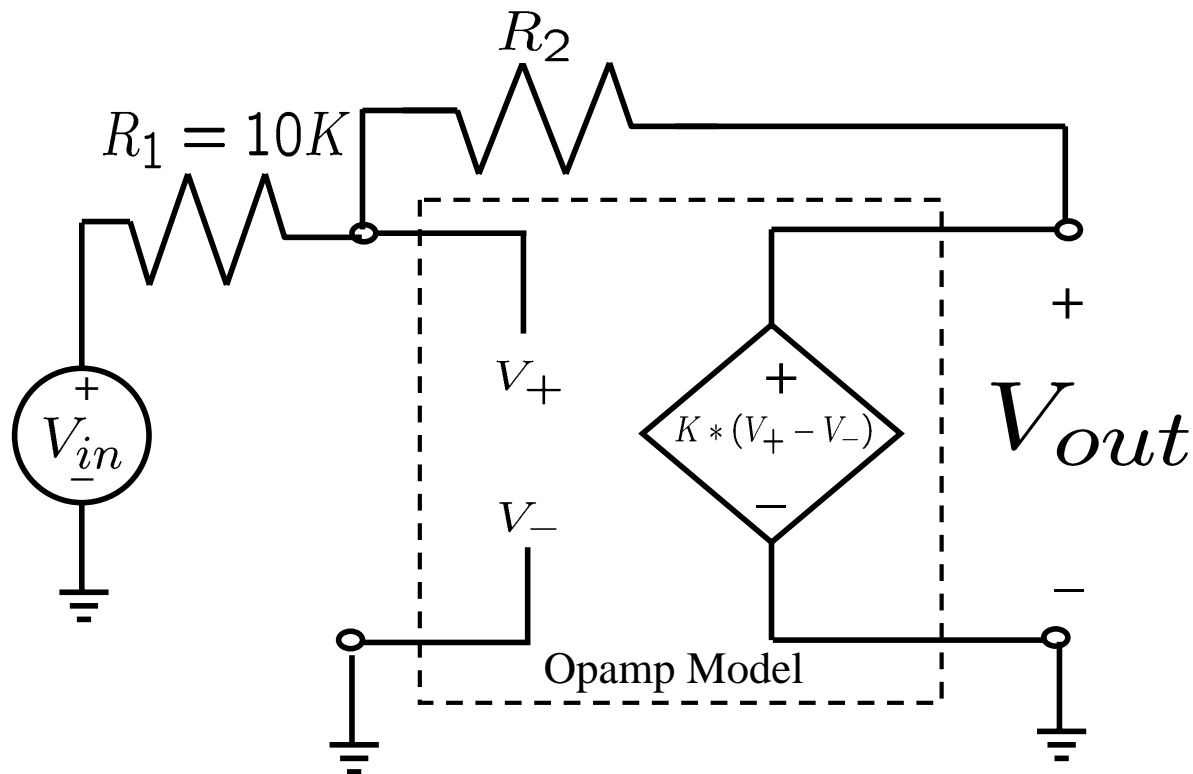

Figure 3: Postive Feedback version of an amplifier.
**Question 6.** In figure 3, the voltage-controlled voltage-source model of the op-amp has been used to create an amplifier with input  $V_{\text{in}}$  and output  $V_{\text{out}}$ , but we have interchanged the positive and negative inputs. Using the difference equation model for the response of the output of the op-amp to its input, then the relationship between  $V_{\text{out}}$  and  $V_{\text{in}}$  will also be a difference equation of the form
**Question 7.** Suppose  $V_{\text{out}}(0) = 0$  and  $V_{\text{in}} = 1$  for all  $n$  for the op-amp configured as figure 3 with  $R_2 = 10\text{k}$ . Will the  $\lim_{n \rightarrow \infty} V_{\text{out}}(n)$  be finite? Try plotting  $V_{\text{out}}(n)$ . What do you observe about the solution?